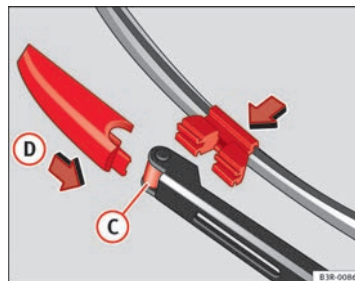

Fig. 171 Fitting the wiper blade
- Fit the new wiper blade into the mounting on the wiper arm → fig. 171 **C**.